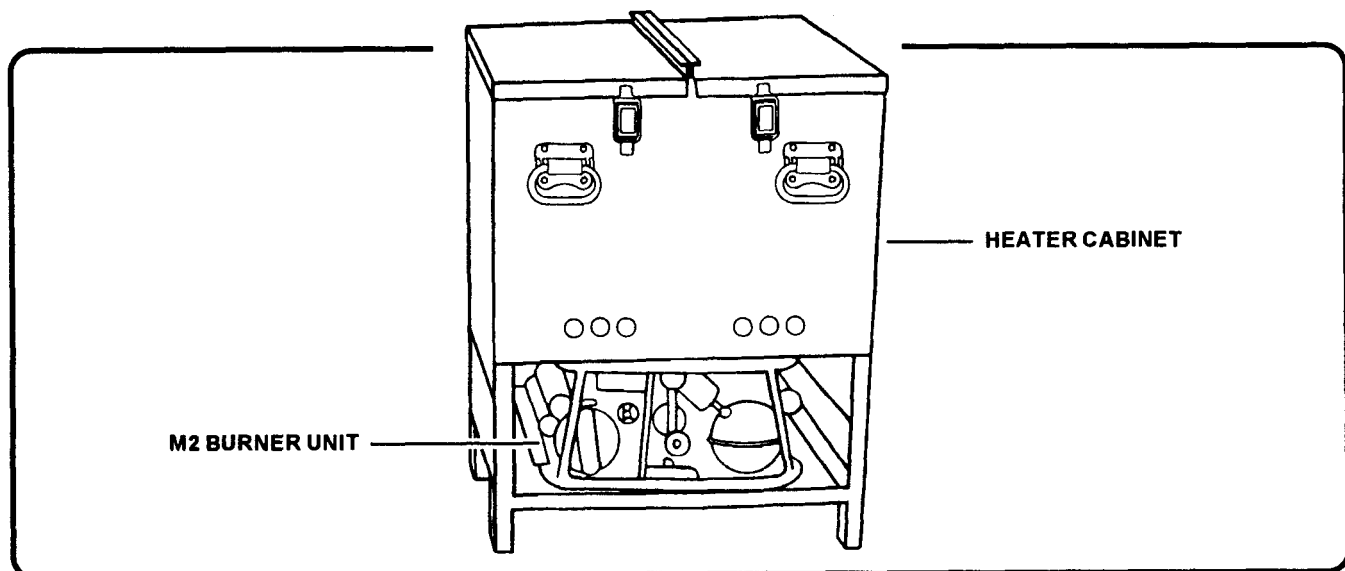

Figure 10-9. Heater tank assembly
**Heater tank assembly.** The heater tank assembly (Figure 10-9), filled with water and with the M2 burner in place, heats up to 24 tray packs.